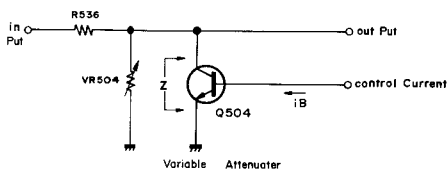

Figure 33-1
- The variable attenuator is constructed as shown in Fig. 33-1.